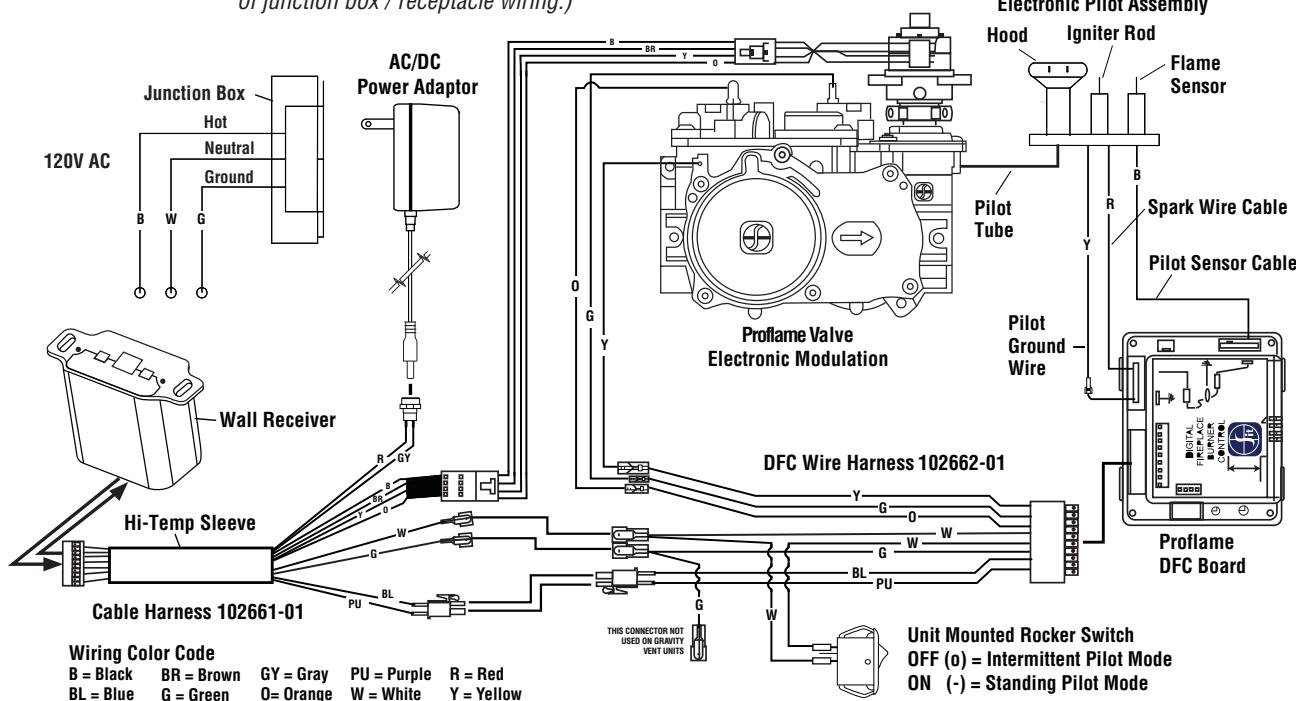

Figure 35 - Electronic Wiring Diagram for Gravity Vent Fireplaces
Ground supply lead must be connected to the wire attached to the green ground screw located on the outlet box. See Figures 35 and 36. Failure to do so will result in a potential safety hazard. The appliance must be electrically grounded in accordance with local codes or, in the absence of local codes, the National Electrical Code, ANSI/NFPA 70-latest edition.
(See Figures 35 and 36)
- Connect the black power supply wire to the power outlet's red pigtail lead and the white power supply wire to the common terminal of the outlet as shown in Figures 35 and 36.